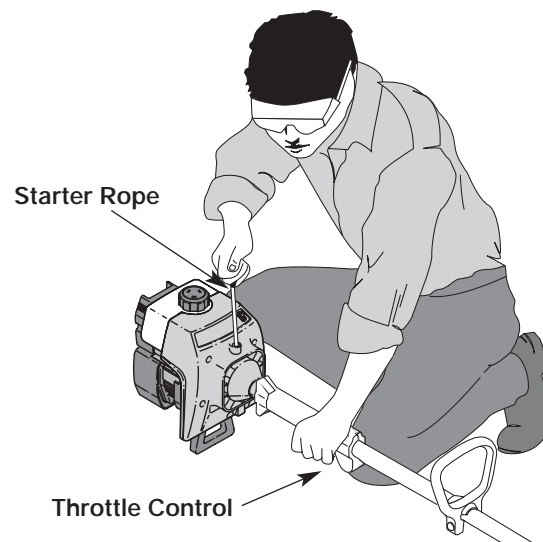

Figure 8
WARNING: Avoid accidental starting. Make sure you are in the starting position when pulling the starter rope. See Figure 8. To avoid serious injury, the operator and unit must be in a stable position while starting.
5. With the unit in the starting position (see Figure 8), squeeze the throttle control to the wide open (full throttle) position. Pull the starter rope briskly 5 times while still in the **FULL** choke (A ) position. If the engine attempts to run before the fifth pull, proceed to step 6.
7. Pull starter rope 1 to 3 times, briskly, to start the engine. See Figure 8.
1. Release your hand from the throttle control. See Figure 8. Allow the engine to cool down by idling.